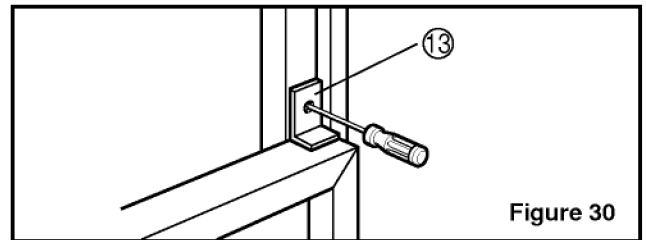

Figure 30
12. Attach the window locking bracket \otimes with a type C screw. (See Fig. 30)